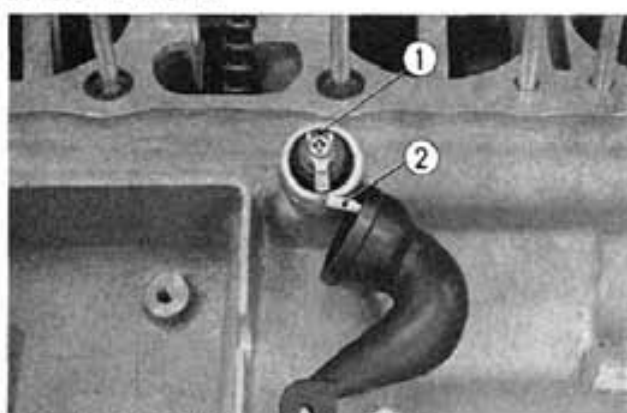

Fig. 16-25 ① Oil pressure switch
1. Remove the oil pressure switch from the upper crankcase. (Fig. 16-25)